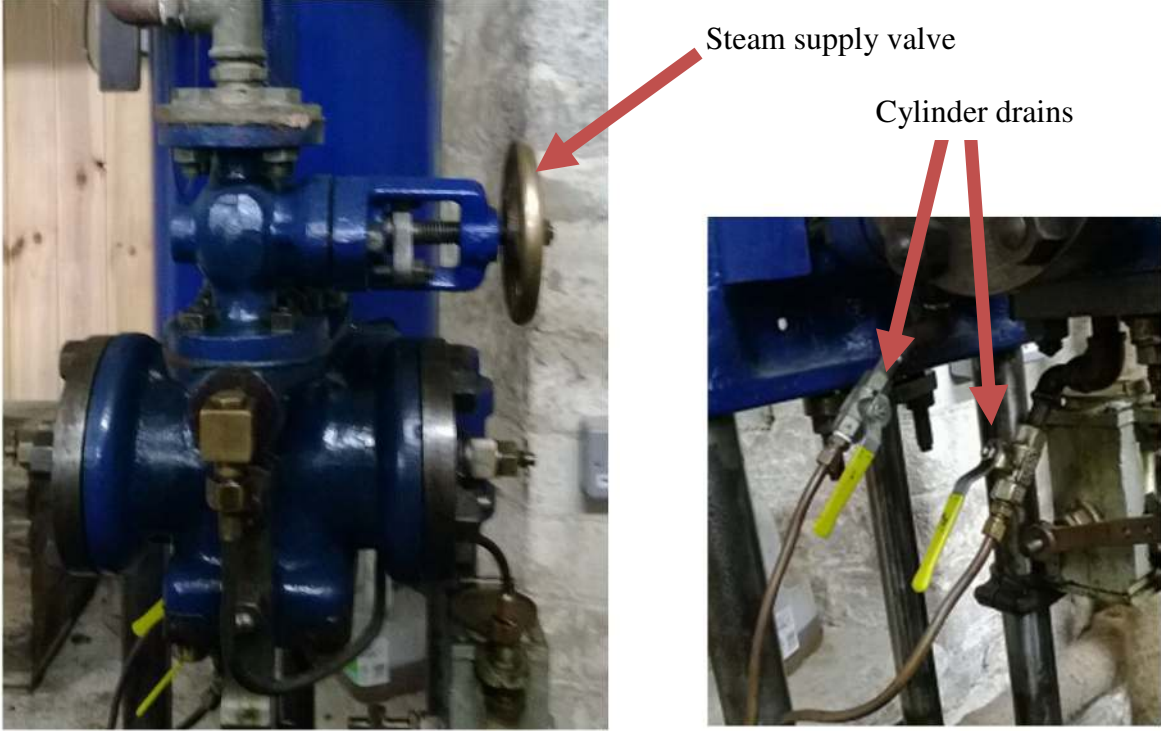

Figure 2 Weir Pump: Steam Supply Valve and Cylinder Drains
- ◇ Close the pump's steam stop valve (see Figure 2)